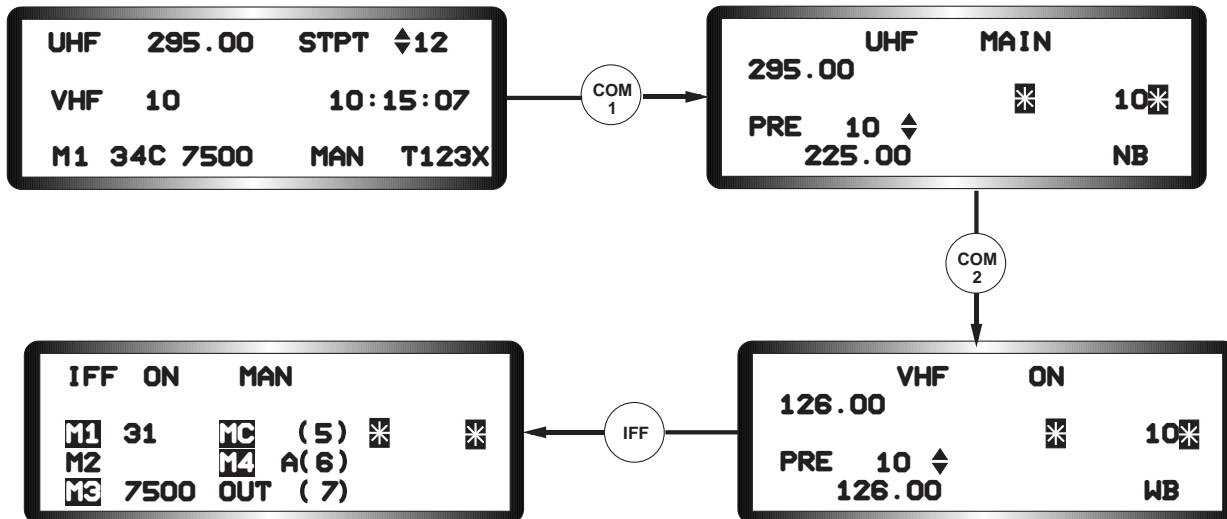

Figure 1-27 Override Function Page Access
**Override Functions.** The override push buttons on the top left of the ICP provide immediate, single-switch access to several commonly used DED pages, COM 1, COM 2, and LIST. Access is immediate, independent of the DED page currently selected (Figure 1-27).